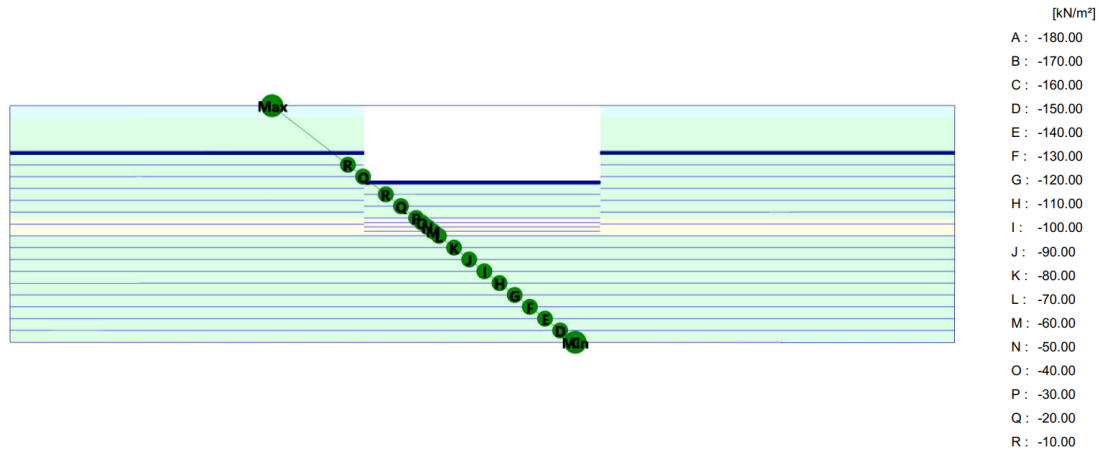

Figure 35: Preview of the steady state pore pressures in Phase_4 in a cross section
26.  Display the contour lines for steady pore pressure distribution. Make sure that the **Legend > View** option is checked. The steady state pore pressure distribution is displayed in Figure 35 (on page 54). Scroll the wheel button of the mouse to zoom in or out to get a better view.